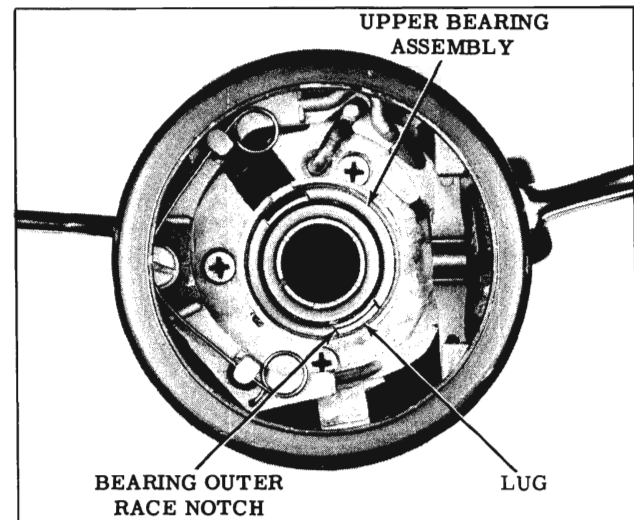

Fig. 4-301 Upper Bearing Position
20. Position bearing outer race notch over lug in inner diameter of the turn signal actuator frame. (Fig. 4-301)